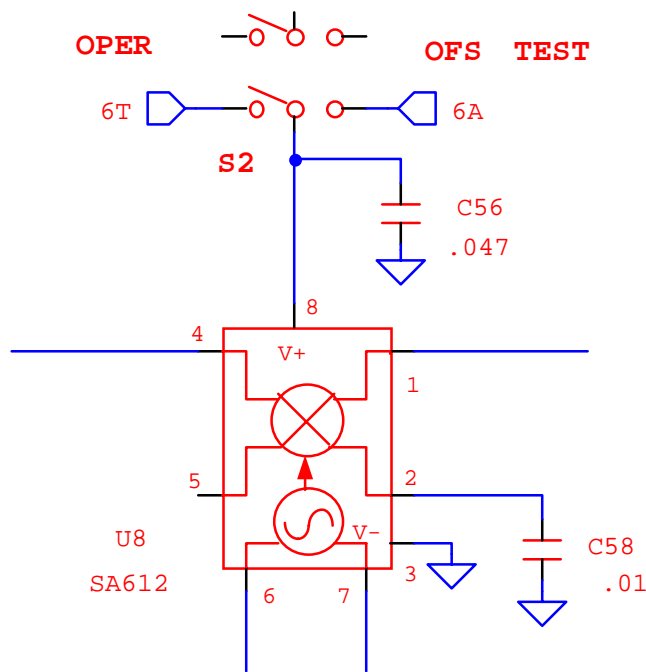

Figure 7
- O. Add the new switch, S2, to the schematic (RF Board, sheet 2). See the partial schematic, Figure 7.